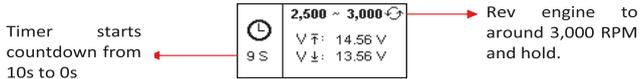
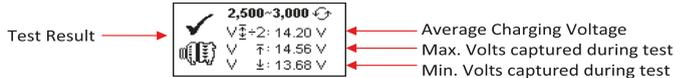
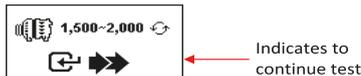

Fig.40
Fig.41
Fig.44
4. Start the engine if it is not running and maintain at idling condition. Make sure the air condition is OFF. Press  key to continue and display will show. (See Fig.40).
5. Then rev the engine to around 3,000 RPM and hold, the timer shown on the display (Fig. 40) will start to countdown from 10s to 0s. As soon as it reaches zero second, the results will automatically display as example shown below (Fig.41).
7. Continue from the previous test (either Fig.41, 42 or 43); the display automatically switched to **[Electrical Load Test at 2,000 RPM]** as shown in Fig.44 below after 5 seconds.